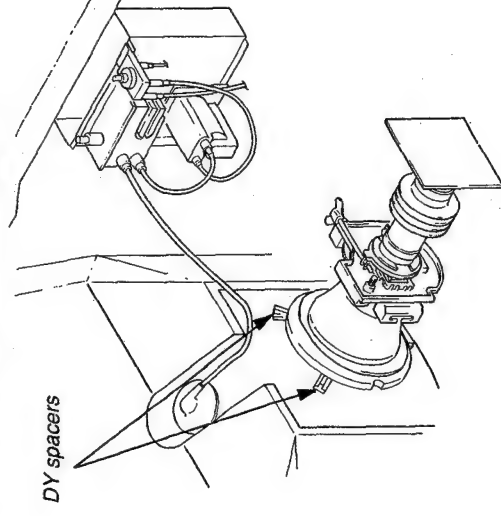

Fig. 1-4.
13. Secure the DY with the spacers. (Fig. 1-4)